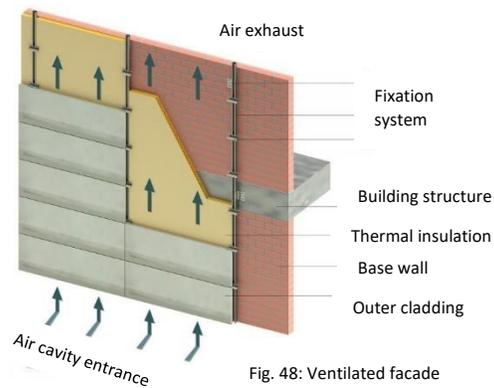

Fig. 48: Ventilated facade (Source: baffsystem.com)
a) **A ventilated facade**, (Fig. 48) also called a ventilated cladding or rainscreen facade, consists of three layers: